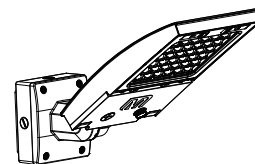

FIG. 5
6. Inspect installation to ensure the fixture is secure. (see Fig. 5)